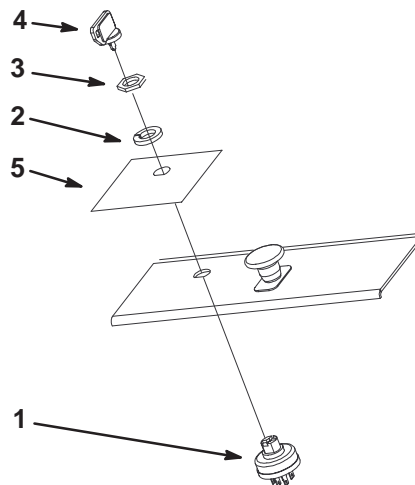

Figure 3
7. Remove the nut and lock washer securing the ignition switch to the control panel and remove the switch from the panel (Fig. 3).
2. Install the new ignition switch to the control panel with the lock washer and hex nut (Fig. 3).